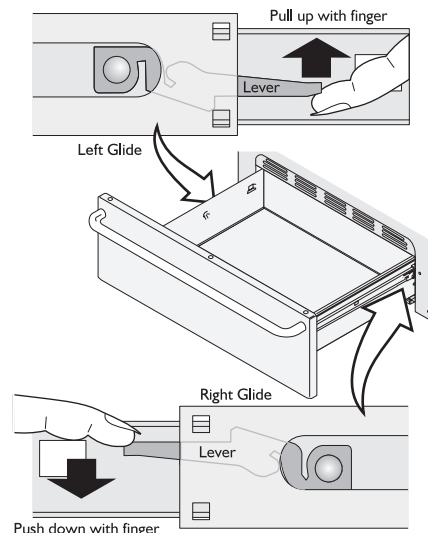

Fig. 1
3. Locate glide lever on each side of drawer, pull up on the left glide lever and push down on the right glide lever (See Fig.1).